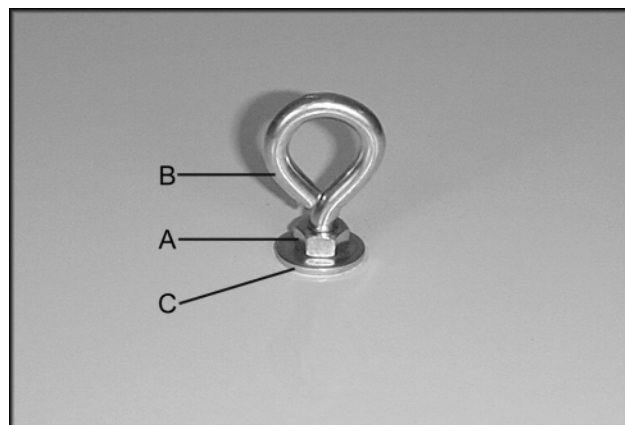

Fig. 1
2. Make sure the hex nut (A, Fig. 1) is threaded all the way up the eyebolt (B, Fig. 1).
3. Place a flat washer (C, Fig.1) on the eye bolt. Screw the eye bolt into the cabinet and tighten hex nut against the cabinet top. You will need to hold the eyebolt so it does not spin while tightening the lock nut.